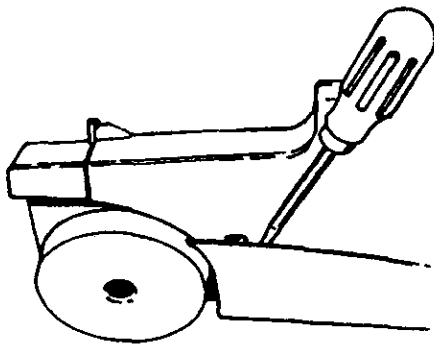

Fig. 11
**The Recovery System.** Recovery from the floor is shown in Fig. 11. With the handle in the operating position, the pump is off and the valve to the tools is closed. All suction is at the floor nozzle.
3. Carefully pry inward on rear panels of hood to release (Fig. 11).